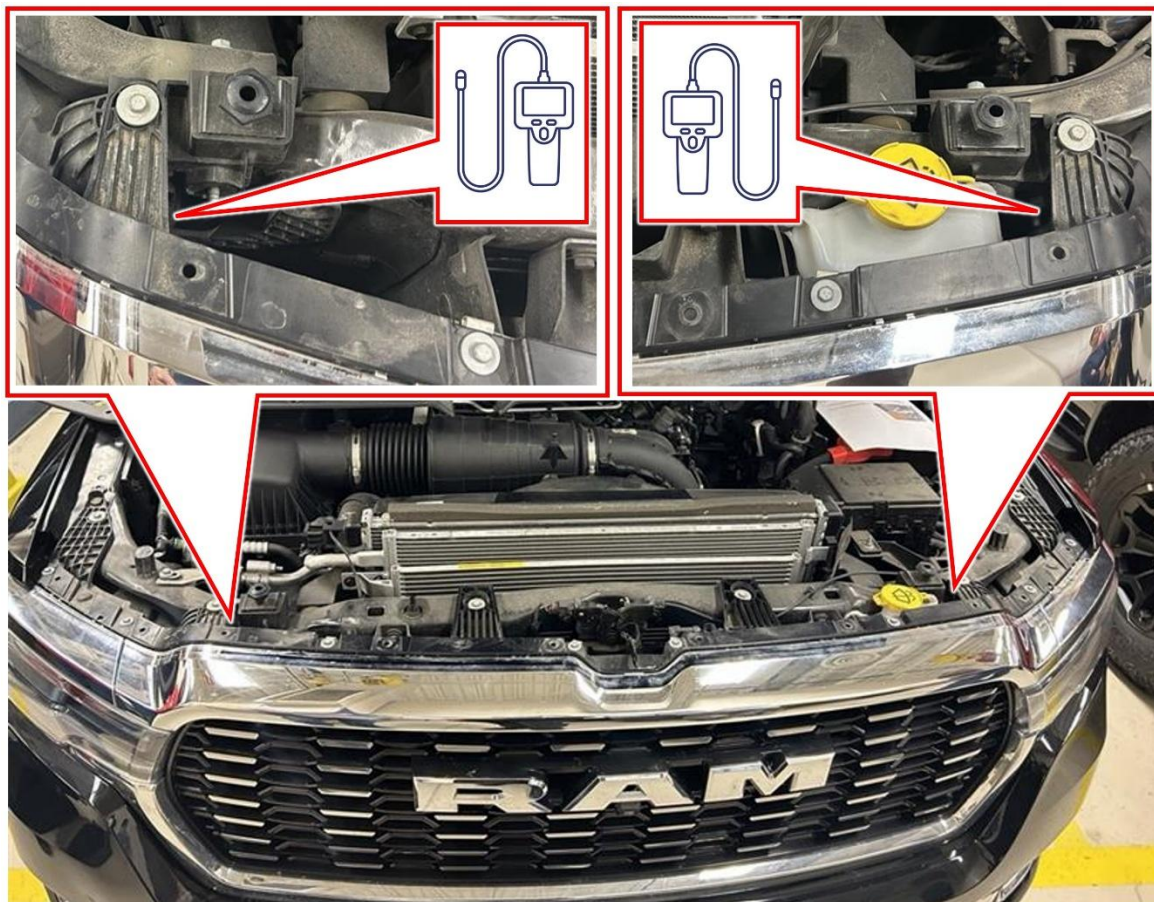

Figure A2 – Inspection Location
4. Using a borescope, inspect the inboard side of each headlamp to locate the manufacturer information label (Figure A2).